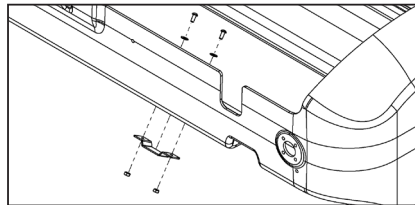

Figure 6
8. Attach Metal Clip to side of Baby Pod using the supplied screws and locking nuts. (figure 6)